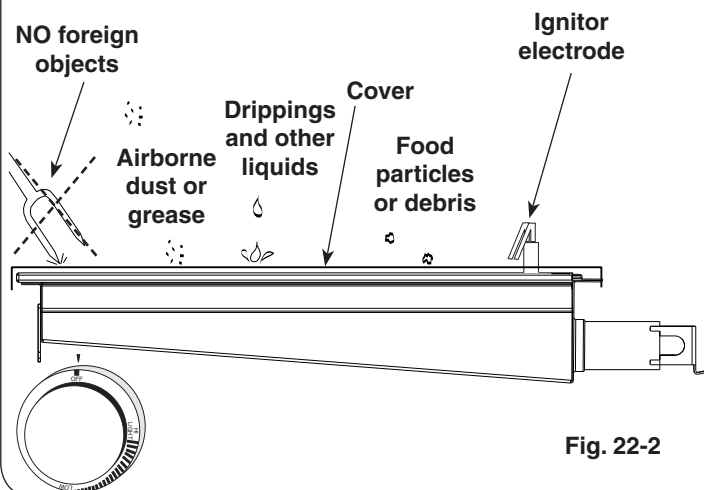

Fig. 22-2
- When not in use, **always** cover the infrared burner with the stainless-steel cover. This protects the burner from drippings (from other cooking), airborne particles, and foreign objects (Fig. 22-2).
- Do not strike or scratch the burner ceramic as it may chip, crack, or break (Fig. 22-2).